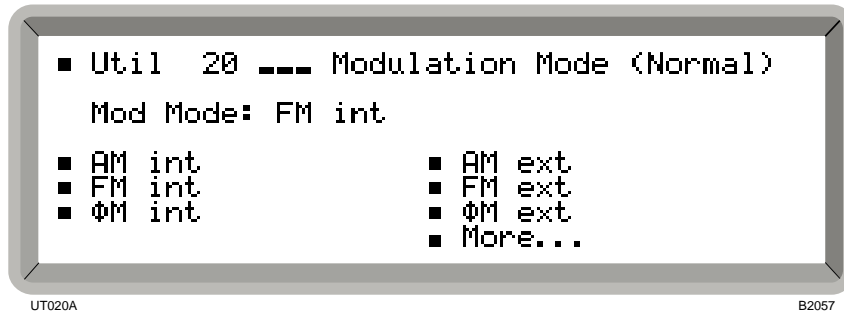
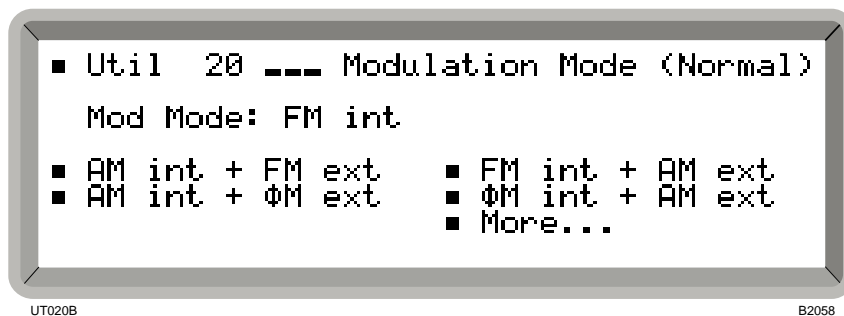

Fig. 4-19 Modulation mode menu – first page
Fig. 4-20 Modulation mode menu – second page
- (1) Select the *Util 20: Modulation Mode (Normal)* menu. This shows the currently selected modulation mode against *Mod Mode:*. If pulse modulation is enabled this will also be displayed.
- (2) From the menu select the desired modulation mode by highlighting the item and then pressing [SELECT]. The current modulation mode changes accordingly. Select single on the first menu page (shown in Fig. 4-19) or dual on the second (shown in Fig. 4-20).